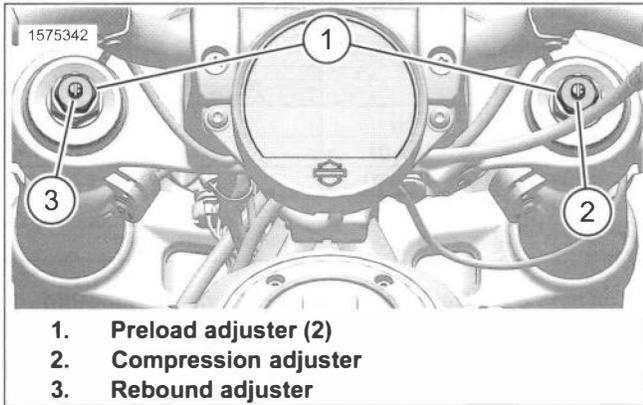

Figure 2-32. Front Suspension Adjusters
See Figure 2-32. The compression adjuster (2) screw is located on the top of the right side fork tube.
See Figure 2-32. The rebound adjuster (3) screw is located on the top of the left side fork tube.
See Figure 2-32. The preload adjuster (1) is located on the top of each fork tube.